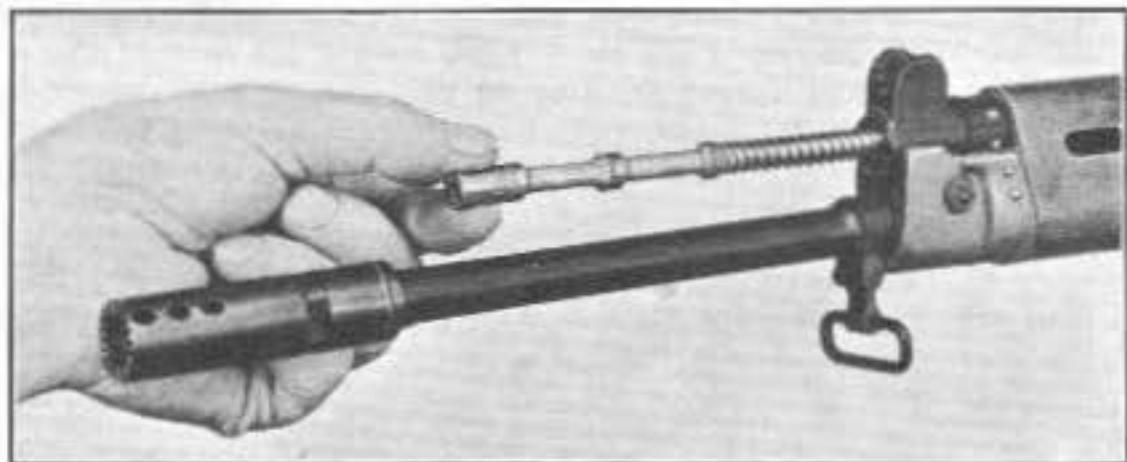

Fig. 45
f) **Remove the piston and spring** from the gas cylinder (fig. 45).